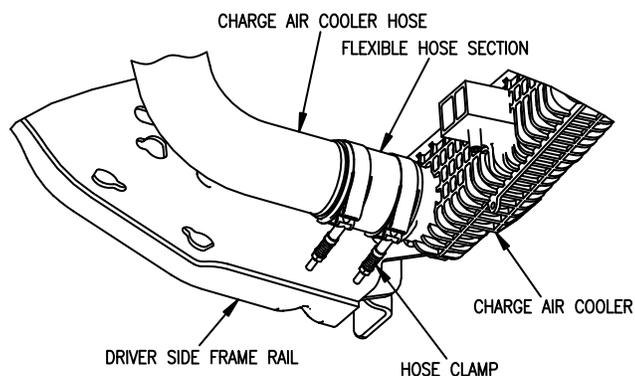

Figure 1. 2008-2010 Diesel engines only G10615
13. Remount Charge Air Cooler Hose to Charge Air Cooler (2008-2010 Diesel engines only) or remount the Transmission Oil Cooler using three Oil Cooler Spacers (100) and three M08 X 40MM Bolts (L) (2011 & Newer Diesel engines only). See Figures 1 & 2.
15. Install Push Beam (62) between Push Beam Support Plates (62A & 62B) using eight 1/2"-13 X 1-1/2" Hex Head Bolts (B) and eight 1/2"-13 Top Lock Nuts (H). Fasteners should only be finger tight. Push Beam (62) should be mounted at a height of 15-1/2" from the ground to the center of the hook hole.
17. Remove or trim the plastic bumper valance as necessary to allow enough room for the hooks of Push Beam (62) and the snowplow Coupler to engage. Trucks equipped with a 2" tall plastic bumper valance do not require removal or trimming of the valance.